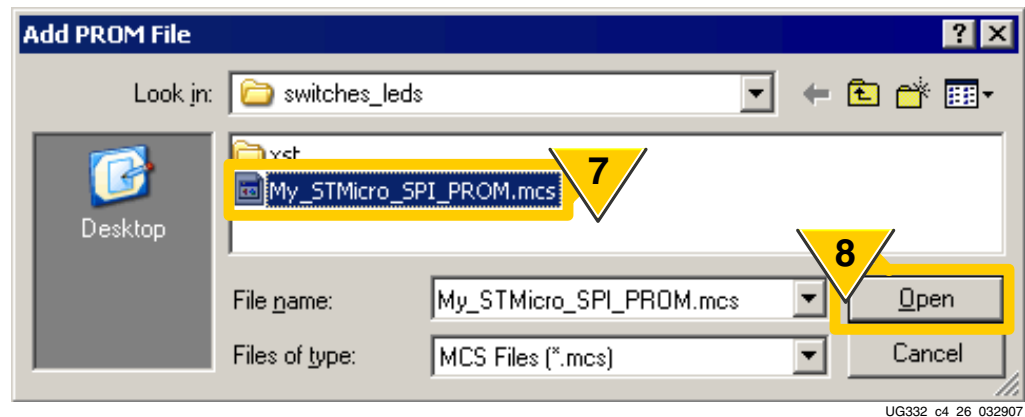

Figure 4-24: Select the SPI PROM Programming File
- As shown in Figure 4-24, select the programming file for the attached SPI Flash PROM.